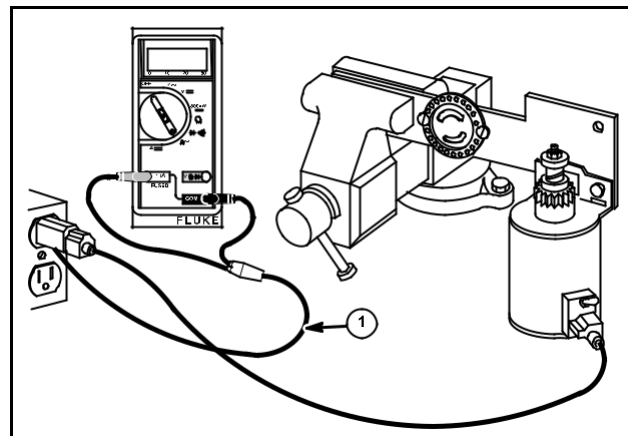

Fig. 29
DMM (#19464) with AC Shunt, Tool #19358 (1), Fig. 29.
1. Clamp the starter motor test fixture in a vise as shown in Fig. 29.